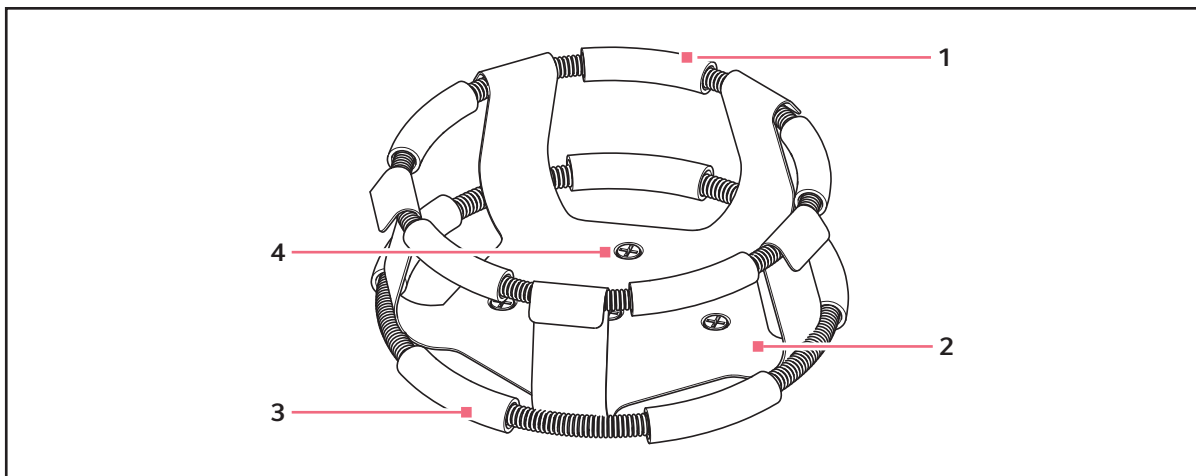

Fig. 8-3: Double girdle clamp installation
2. With the first girdle in place, as delivered, on the upper part of the clamp body (see Fig. 8-3 on p. 41), insert an empty flask into the clamp.